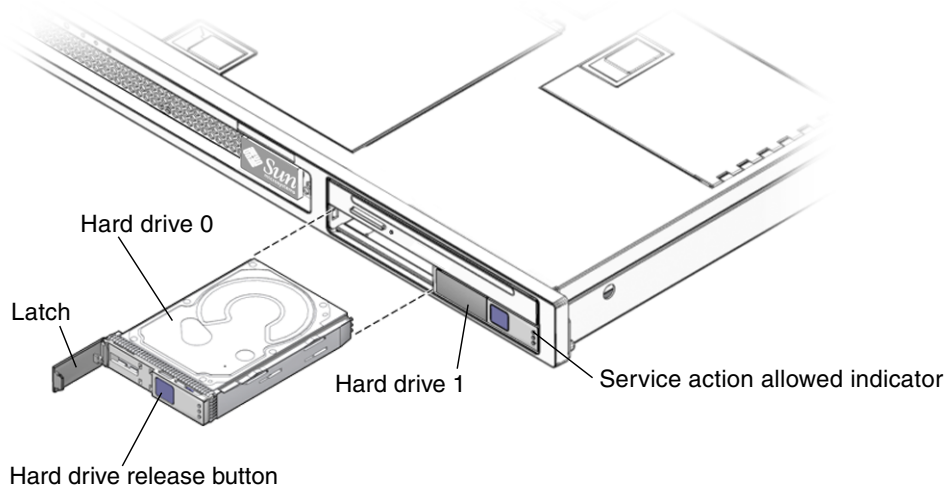

FIGURE 2-1 Locating the Hard Drive Release Button and Latch
3. Wait until the blue service action allowed indicator lights (FIGURE 2-1). This will help you identify which drive is unconfigured and can be removed.
4. On the drive you plan to remove, push the hard drive release button (FIGURE 2-1). The latch opens.
2. **Align the replacement drive to the drive slot** (FIGURE 2-1).
7. Wait until the blue service action allowed indicator goes off on the drive that you installed (FIGURE 2-1).